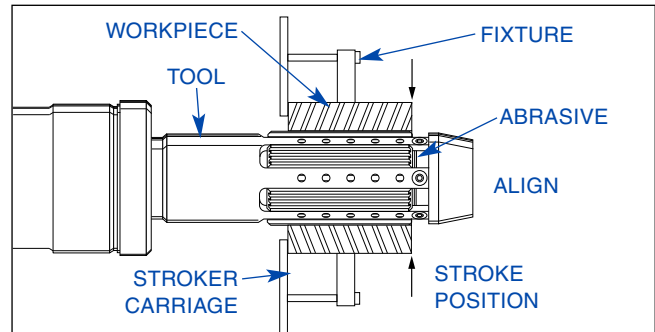

FIGURE 3-1, Set Bore Position
- Use F2 (OUT) and F3 (IN) along with Palm Buttons or move carriage manually with your hand, to move Carriage until leading front edge of abrasive is at front of bore (see Figure 3-1).